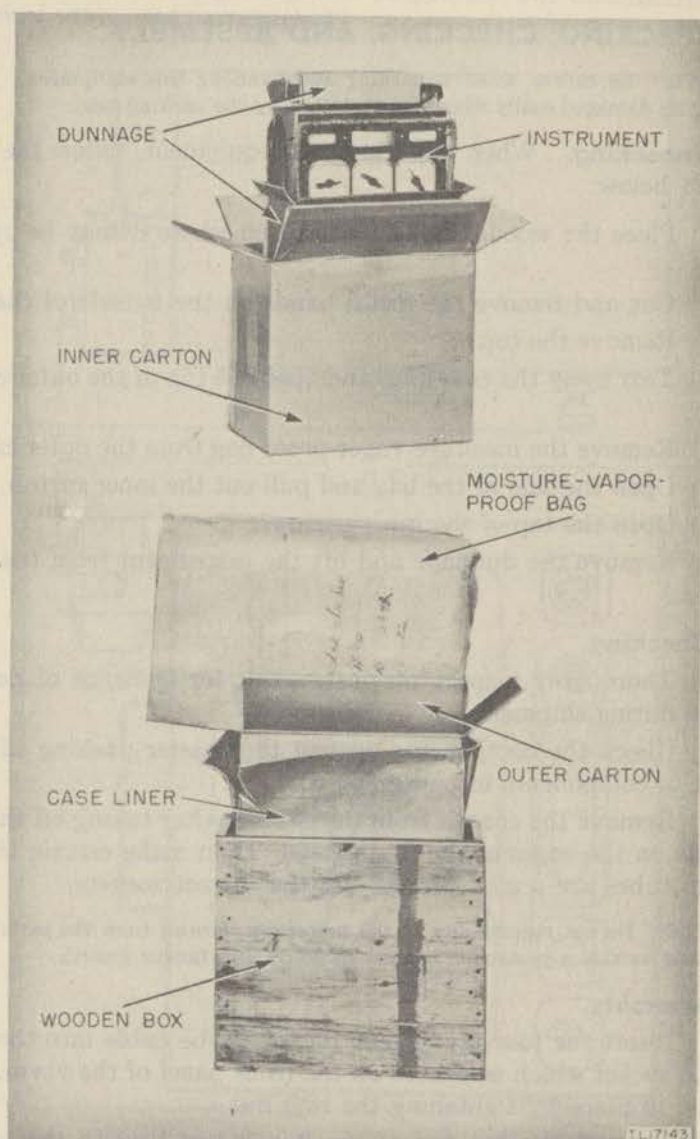
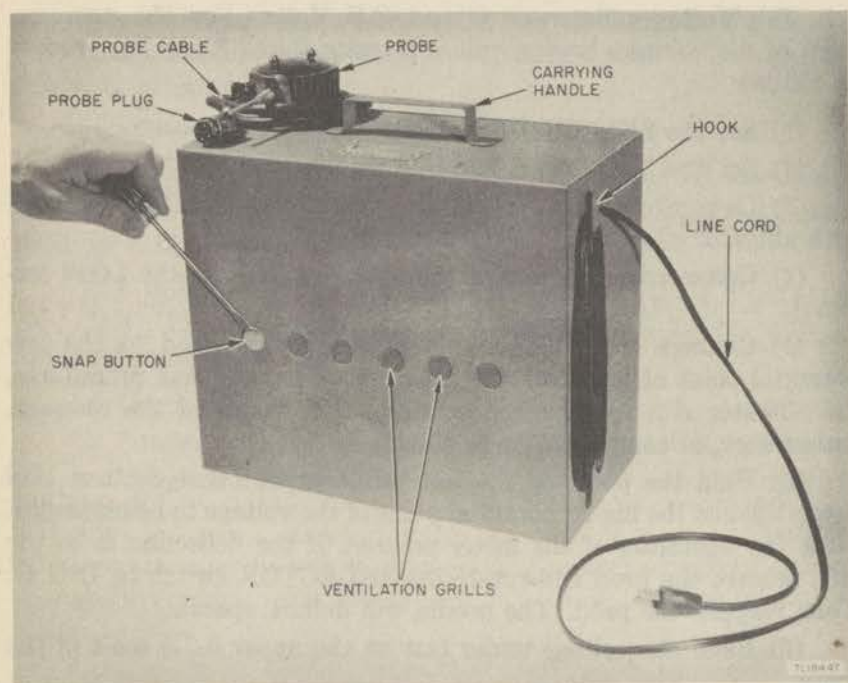

Figure 3. Packaging data.
Figure 6. Vacuum tube voltmeter, back of cabinet.
b. Ventilation grilles are located on the back of the vtvm (vacuum tube voltmeter) (fig. 6) in addition to a snap button which, when removed, makes a screwdriver control accessible. This control is used, when necessary, for making meter zero adjustments on a-c voltage ranges.
- (1) Place the wooden box in a location where it may be opened easily.
- (2) Cut and remove the metal bands on the outside of the box.
- (3) Remove the top.
- (4) Tear away the case liner and open the top of the outer carton (fig. 3).
- (5) Remove the moisture-vapor-proof bag from the outer carton.
- (6) Open the side of the bag and pull out the inner carton.
- (7) Open the top of the inner carton.
- (8) Remove the dunnage and lift the instrument from the inner carton.
When the equipment is not in use, always be sure that the POWER switch is OFF, that the probe is placed in the holding brackets on top of the cabinet, and that the line cord is removed from the a-c power source and wound around the two hooks on the left side of the cabinet (fig. 6). If the equipment must be stored for a period *exceeding 2 weeks* or if it must be shipped to a new location, carefully repack the components into the wooden container from which they were initially removed (fig. 3). If this container is not available, use another wooden container of approximately the same dimensions (par. 5).
(1) Remove the snap cover on the back of the cabinet by prying it out with a small screwdriver (fig. 6). A screwdriver type control (a-c zero adjustment rheostat P5) will then be visible.
(2) Set the SELECTOR switch at the D.C. + position; set the VOLTAGE RANGE switch at the 2.5 position, and adjust the BALANCE control until the meter reads exactly zero.
(3) Rotate the SELECTOR switch to the A.C. position.
(4) Rotate the a-c zero adjustment rheostat P5 to the setting which brings the meter pointer back to zero. Allow approximately 1 minute for the reading to stabilize after the rheostat is adjusted. This waiting period is necessary because rheostat P5 is wired into the heater circuit of tube VT1 to regulate the amount of cathode emission.